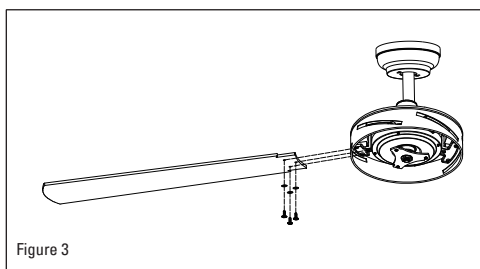

Figure 3
3. Install the fan blades and blade decorative plate by aligning the holes on the blade and plate with the holes on the fan motor assembly set by the provided set screws. (Figure 3)